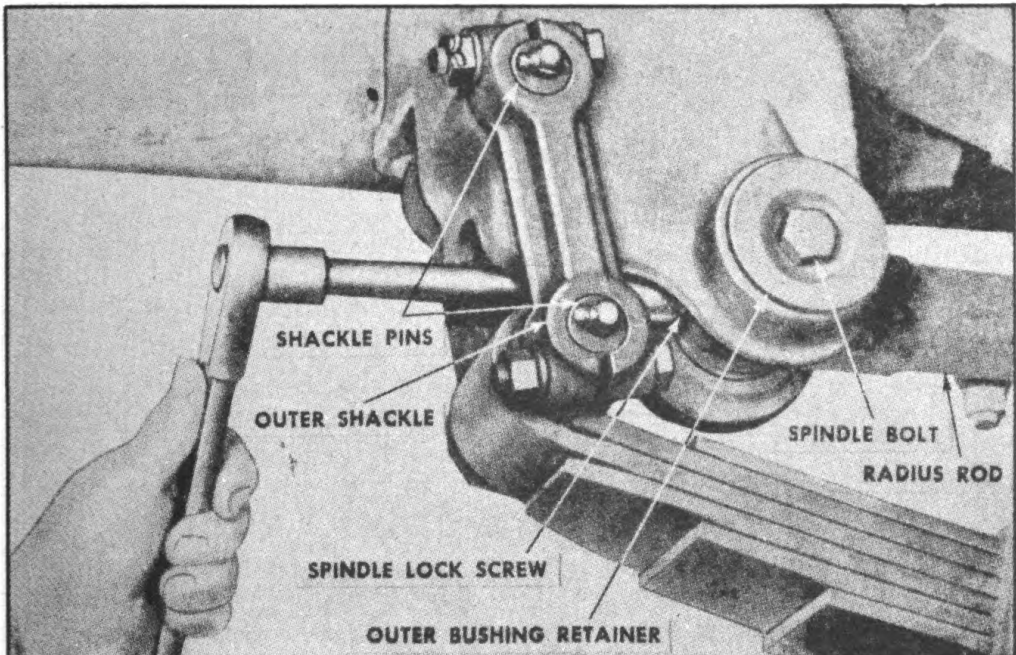

FIGURE 58. REMOVING SPINDLE LOCK SCREW
1. **REMOVAL** (Figure 58).—This unit is equipped with two radius rods; one adjustable and the other fixed. Servicing and removal procedure for each is the same.
2. **REPLACEMENT** (Figure 58).—a. **NOTE:** One end of radius rod has spindle lock screw hole in the end. The other end has lock screw hole at the bottom. Place radius rod in position with the end hole to front in the spring hanger. The other end, which fits into bracket at axle, should be down. Axle end of radius rod is more difficult to connect, therefore it should be coupled first.